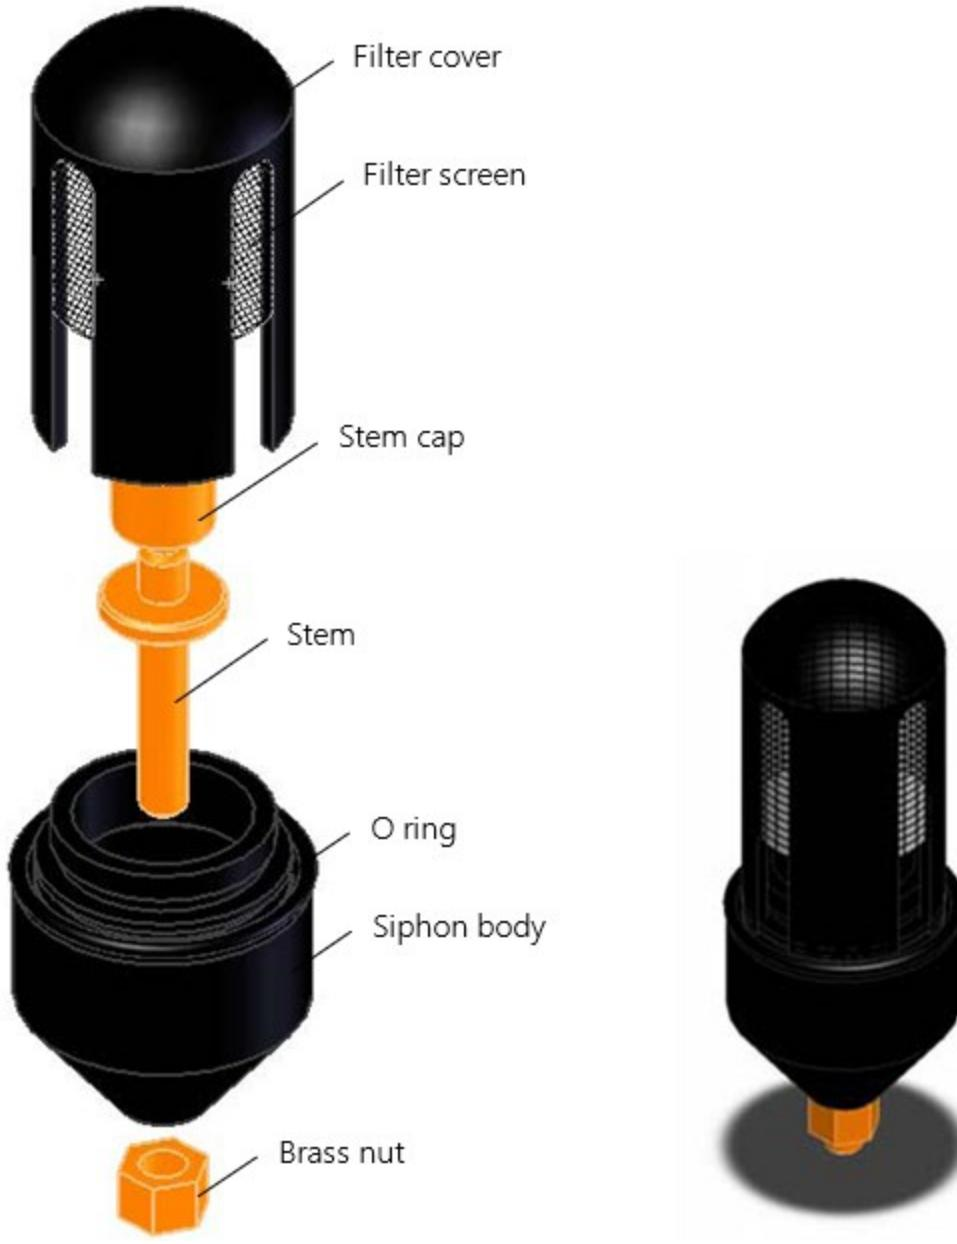

Figure 9-4. Filter/siphon assembly
3. Disassemble the filter/siphon assembly by doing the following ([Figure 9-4 \[p. 25\]](#)):
1. Screw cap on stem; finger tighten only (Figure 9-4 [p. 25]).
2. Push stem into siphon body (Figure 9-4 [p. 25]).
3. Replace nut and tighten (Figure 9-4 [p. 25]).